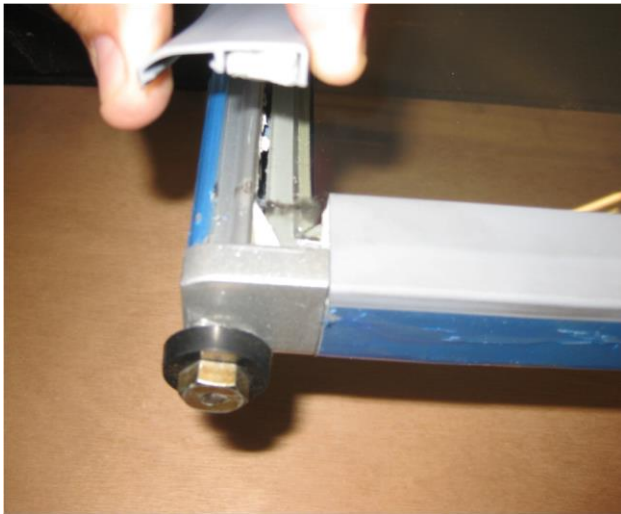

Figure 18
3. Continue to pry the plastic cover from the door rail until the entire end of the plastic rail is disengaged. Refer to Figure 18.